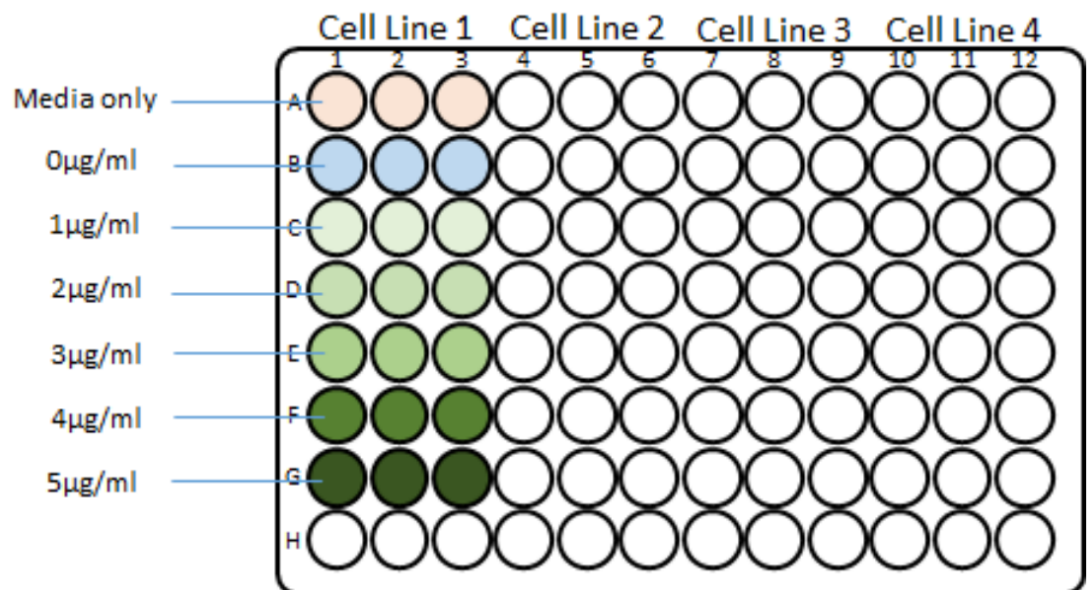

Fig 1: Puromycin titration plate set up
- 1.10 Resuspend 2.4×10^6 cells in 2.7 ml of organoid specific culture media + 300 μL BME2 (this will give a final seeding density of 8×10^4 cells per well once plated, Rows B-G of Fig 1).
- 1.11 Prepare a control stock solution containing organoid specific culture media with 5% BME2 (Row A of Fig 1).
- 1.12 Set up the titration plate as detailed in Fig 1 below;
1.15 Remove the plate from the incubator and pipette  100 µL of the relevant 2x puromycin stock into each well (Rows B-G) to achieve the final require puromycin concentration according to the plate layout in Fig 1.